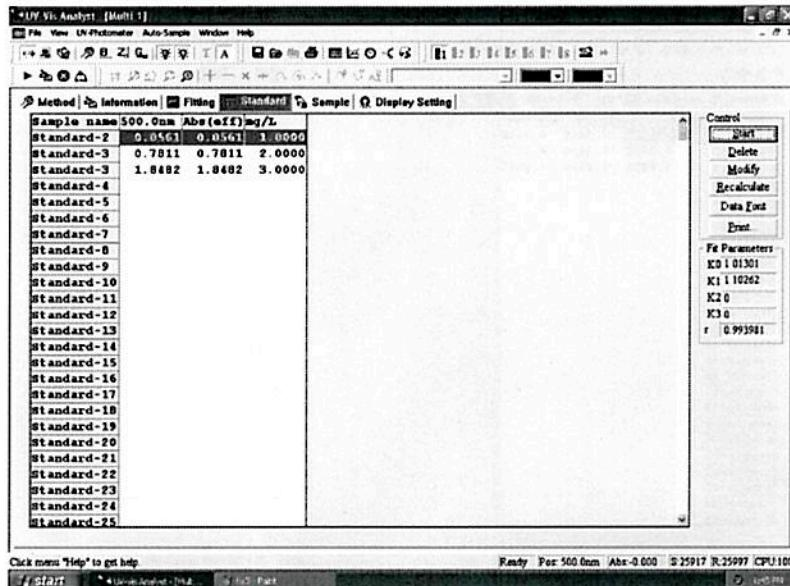

Fig. 4-6
- (1) Tick the **Use Standard Samples** check box.
- (2) Place the reference into the sample holder. Click to do blank.
- (3) Click the **Standard** tab.
- (4) Place Standard 1 in the sample compartment. Click **Start** to run a measurement.
- (5) Key in the concentration value of Standard 1 in the **Conc.** box.
- (6) Key in the sample name for the standard in the **Name** box.
- (7) Click **OK**. The photometric data, ΔA and concentration will be shown in the standard table.
- (8) Repeat steps 4-7 to measure all the prepared standards (Fig. 4-6).